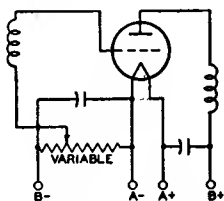
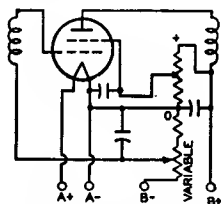

Fig. 114—Amplifier stage using a variable cathode-bias resistor for volume control.
Fig. 116—Amplifier stage using a bleeder circuit and potentiometer for volume control.
Grid-bias variation for the rf and if amplifier stages is a convenient and frequently used method for controlling receiver volume. The variable voltage supplied to the grid may be obtained: (1) from a variable cathode resistor as shown in Figs. 114 and 115; (2) from a bleeder circuit by means of a potentiometer as shown in Fig. 116; or (3) from a bleeder circuit in which the bleeder current is varied by a tube